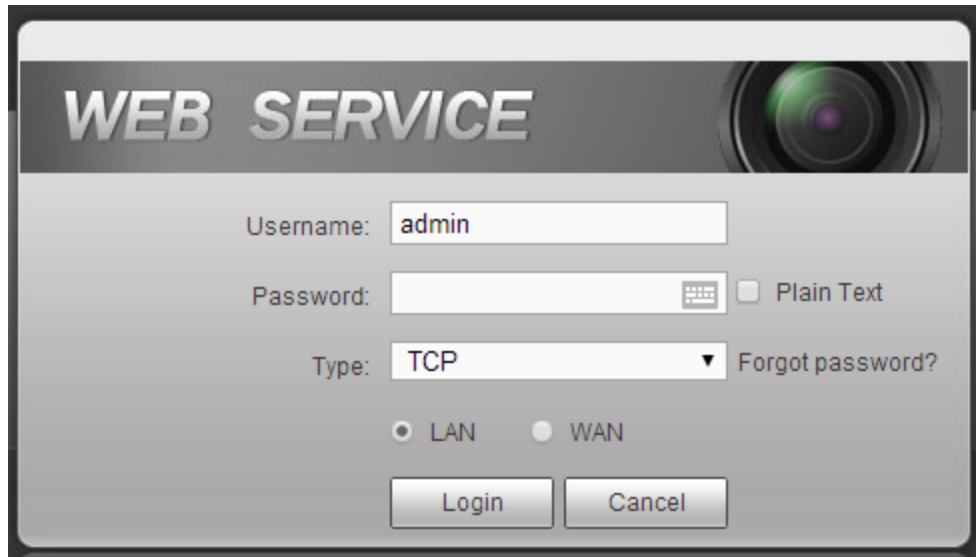

Figure 5-1
Step 1 Open the browser and input NVR address in the address column. Click Enter button. Enter login interface. See Figure 5-1.